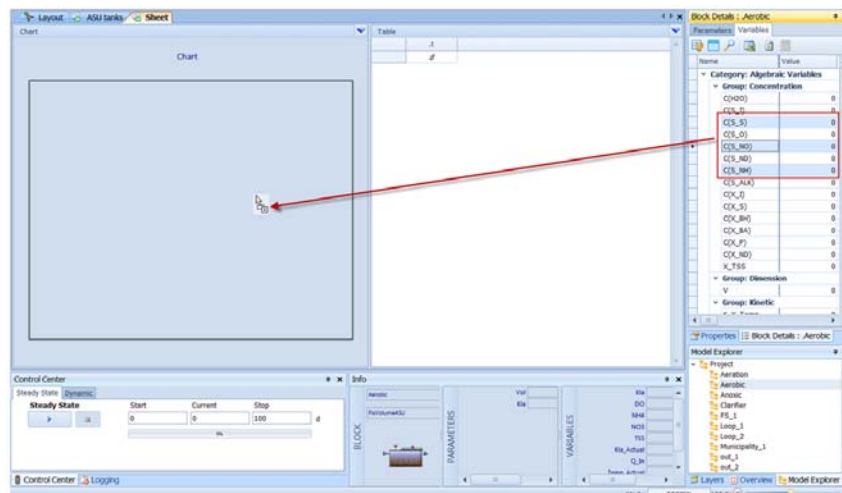

Figure 5.23 Multi-select, drag and drop variables that are to be added to a plot window
- Select the relevant Model Parameters or Variables, drag and drop them onto the appropriate *object* (Figure 5.23). Multi-selection is supported, by holding down the “Shift” key and selecting the first and the last item of a consecutive list; or by holding down the “Ctrl” key and selecting non-consecutive items.